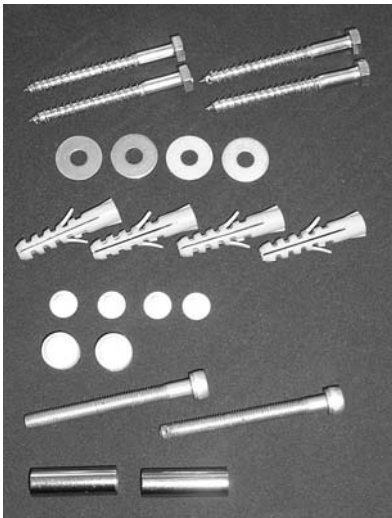

Fig.2
- 1x bag with small parts (see Fig.2)